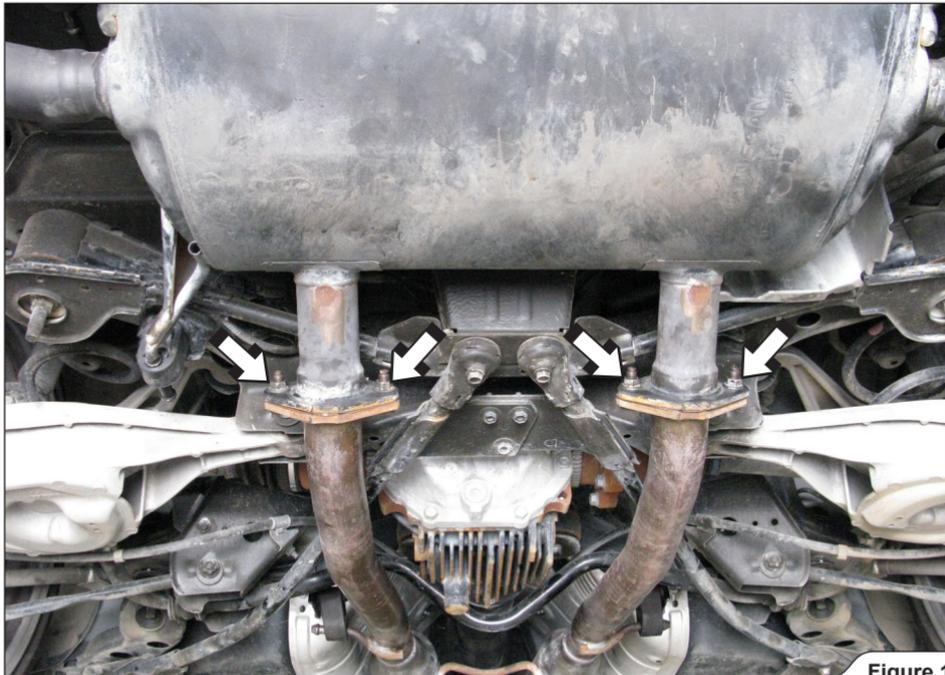

Figure 1
1. For Slip-On and Evolution: unscrew the marked nuts (Figure 1).